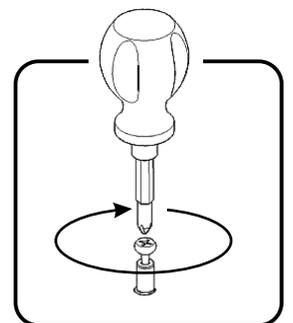

Figure 1
Insert Cam Lock Screws into pre-drilled holes in Top (A), Plinths (C), and Side Panels (H), (I), (J), then tighten. (See Figure 1)